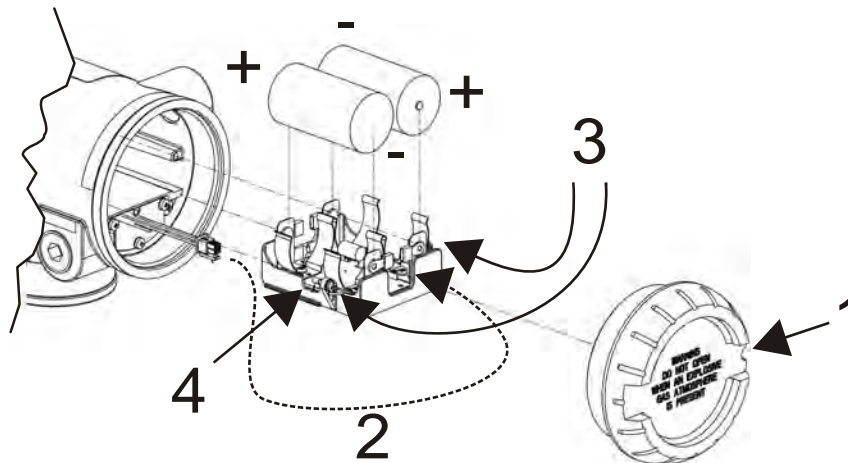

Figure 5-1: Battery assembly
1	Loosen the M3 locking set screw on the battery end-cap (opposite end from display). See item 1 in Figure 5-1. Unscrew and remove the end cap.
2	Using thumb and forefinger, squeeze the battery connector at top and bottom to disengage the locking mechanism, then pull to disconnect. See item 2 in Figure 5-1.
3	Loosen the two battery holder retaining screws (closest to the batteries). See item 3 in Figure 5-1. The screws are captive.
5	Remove the old batteries from the battery holder. If needed, pry out the batteries by using a slotted screwdriver as a lever in the holder's side slots. See item 4 in Figure 5-1.
- 7 Insert the Battery pack into the transmitter. Re-attach the screws as indicated in Figure 5-1, item 3, to 0.4 to 0.6 N-M (3.5 – 5.3 Lb-in).